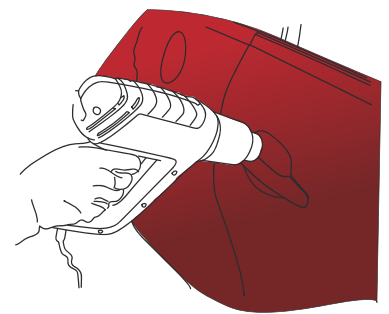

Figure 30
- Once the application is finished, heat once more all the parts which have undergone severe deformation using the heat gun. (FIG. 30)